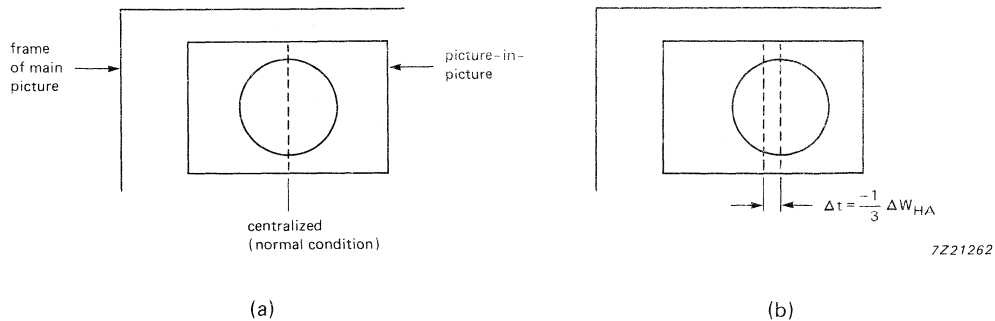

Fig. 4 PIP position; (a)  $ACL = 10,9 \text{ MHz}$ , (b)  $\Delta t = -1/3 \Delta W_{HA}$ .
1. Pulse width HA (typ. 250 ns): the first sample of a line occurs after approximately 124 periods of ACL (counted on the negative edge of HA). The internal horizontal acquisition off-set value is chosen in such a way that  $ACL = 10,9 \text{ MHz}$ , when this condition is satisfied the acquired picture is centralized within the PIP. The off-set value is dependent upon the acquisition frequency, 50 Hz or 60 Hz (124 ACL periods of 50 Hz and 108 ACL periods of 60 Hz). If the pulse width of HA increases, the acquired picture will shift to the left within the PIP picture (see Fig. 4).